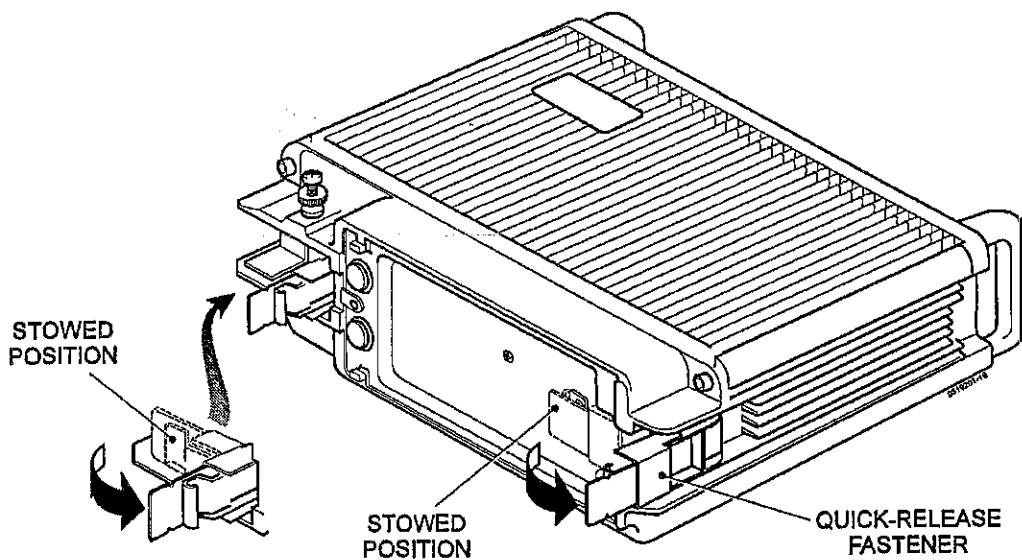

Fig 4 R/T unit battery quick-release fasteners deployment
13.4 Release the two quick-release fasteners on the R/T unit rear panel from the stowed position (Fig 4).